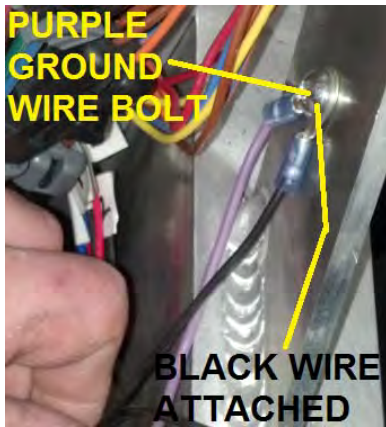

FIG. 11.11
12. Remove 1/4" nut & bolt attaching purple ground wire to upper left gusset on carriage. Slide 1/4" ring terminal on other end of 16" black wire over bolt and reassemble so both purple and black wires are grounded to carriage. (FIG. 11.11).